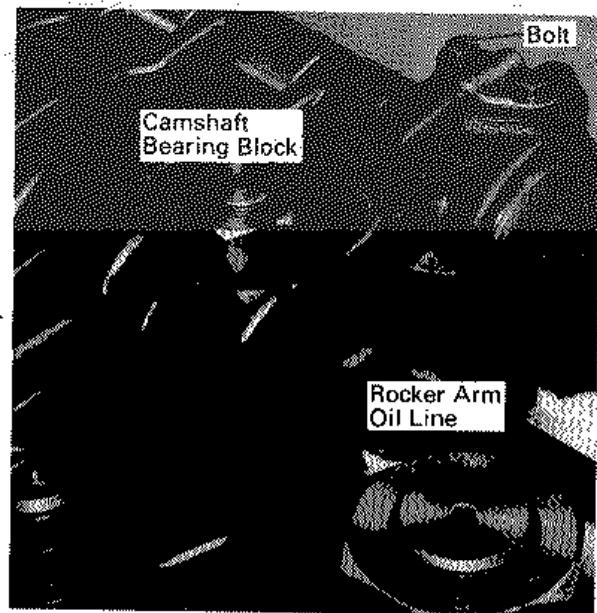

Fig. 5-1 - Rocker Arm Oil Line Removal
9. Disconnect the rocker arm oil line at the camshaft bearing block, Fig. 5-1. Also disconnect the line on the opposite cylinder, opposite bank. Remove the gaskets between the oil lines and the blocks.
9. Disconnect the rocker arm oil line, Fig. 5-1, at the camshaft bearing block. Also disconnect the line on the opposite cylinder, opposite bank. Remove the gaskets between the oil lines and the blocks.